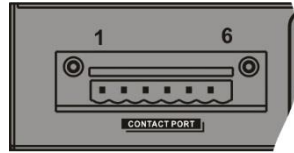

Fig. 1: Focus on contacts port.
The contacts port is formed using six (6) pins numbered from left to right (see fig. 1), which can be connected to an external monitoring system (such as a BMS) in order to monitor the operational status of the ATS.